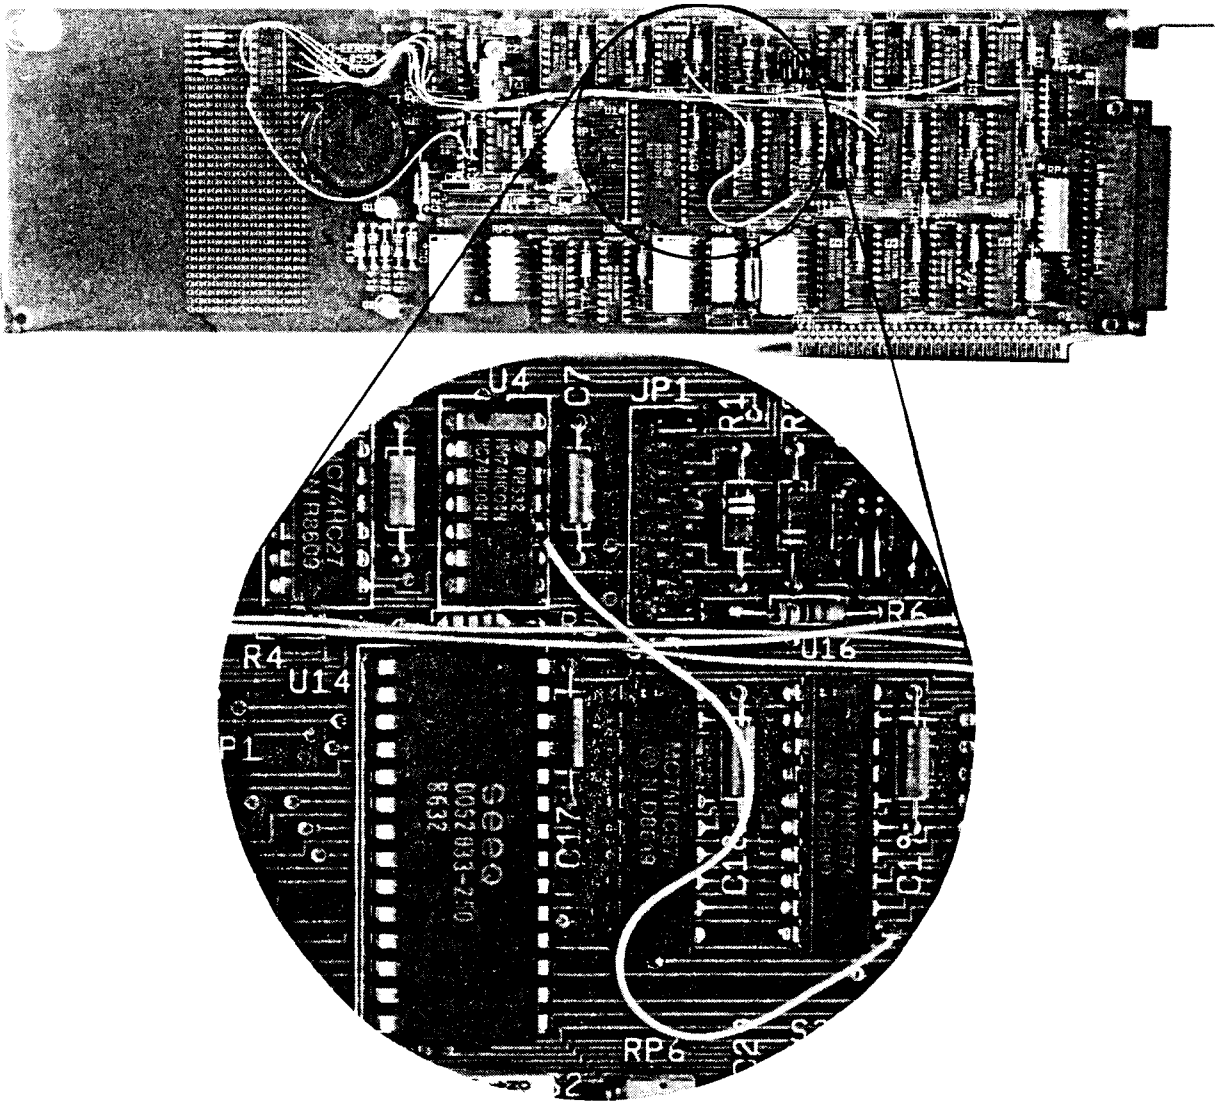

Figure 2. Modifying the I/O/EEPROM/CLOCK Board
16. On the I/O/EEPROM/CLOCK Board, cut pin 11 of U16, as close to the board as possible. Bend the just cut pin, up (see Figure 2).
17. Using a soldering iron, carefully solder the jumper wire supplied from pin 10 of U4 to pin 11 of U16 (see Figure 2). NOTE : TOO MUCH HEAT USED WHEN SOLDERING THIS JUMPER WIRE, CAN DAMAGE THE ICS INVOLVED.